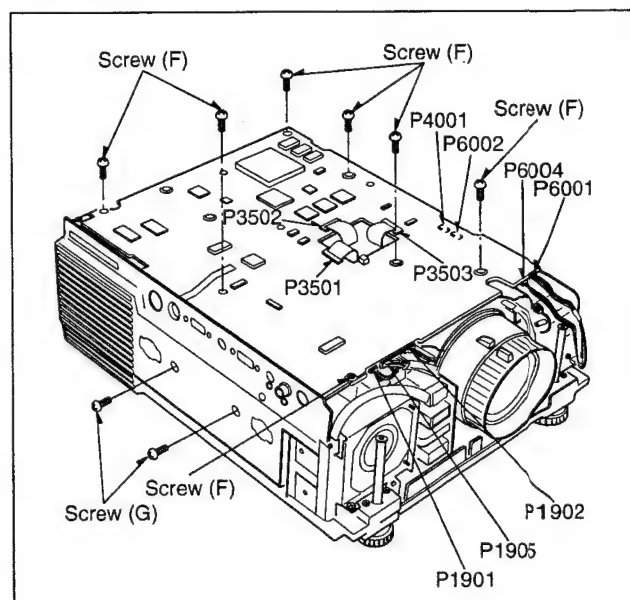

Fig. D7
1. Remove 7 screws (F) as shown in Fig. D7.
2. Remove 2 screws (G).